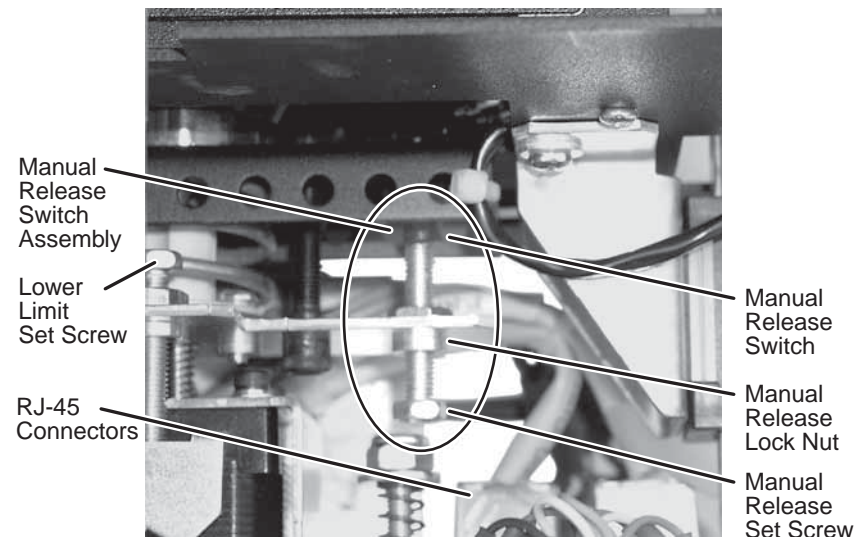

Figure 3-9 — Location of manual release switch assembly (seen from the side)
4. Locate the manual release switch assembly (figure 3-9) inside the enclosure.